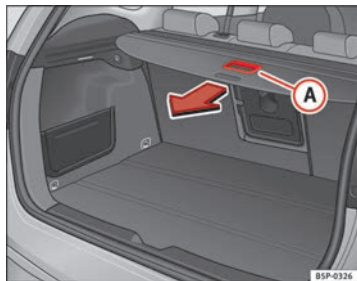

Fig. 121 Using the rear shelf
- Use the handle **A** to pull the shelf back until you hear a “click” ⇒ Fig. 121.